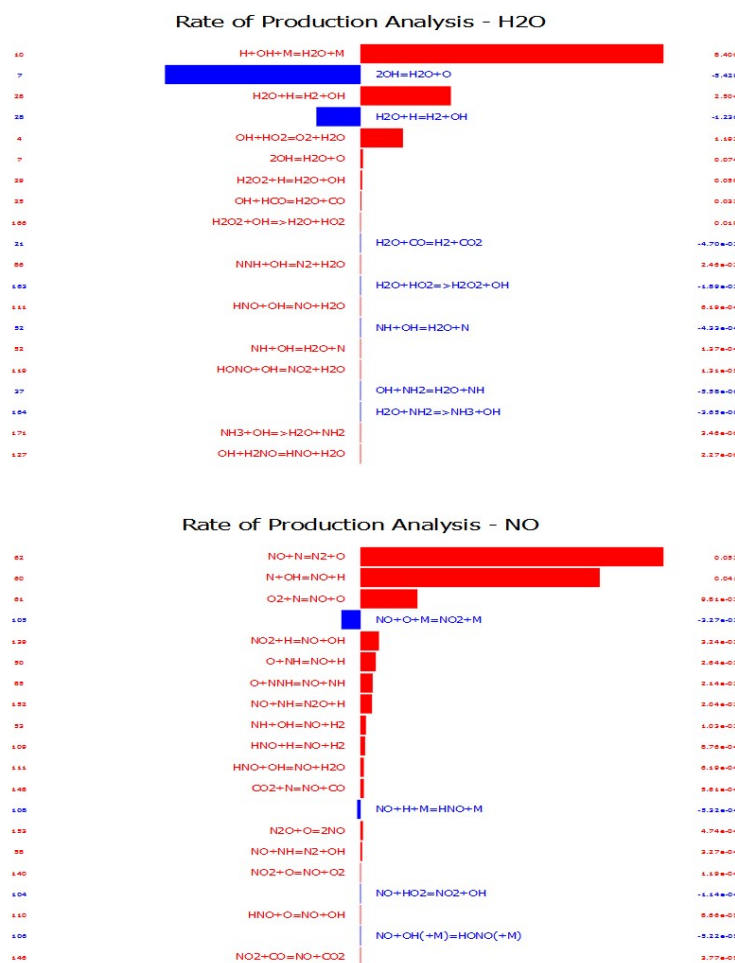

Figure 3.4: Adiabatic batch reactor: rate of production analyses for H2O and NO as calculated by using the OpenSMOKE++ PostProcessor.
4. More interestingly, you can perform rate of production analysis for each species in the kinetic scheme through the **Plot ROPA bars** button (see Figure 3.4).